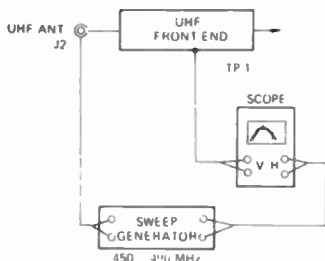

FIGURE 8. UHF FRONT END EQPT: HOOK UP
Step 1: Connect the instruments as shown in Figure 8.